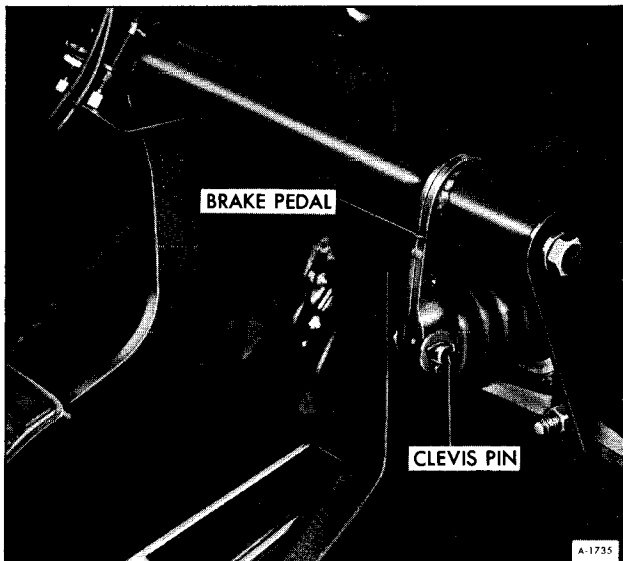

Figure 21—Clevis Pin Location
3. Remove clevis pin from brake pedal (Refer to figure 21).